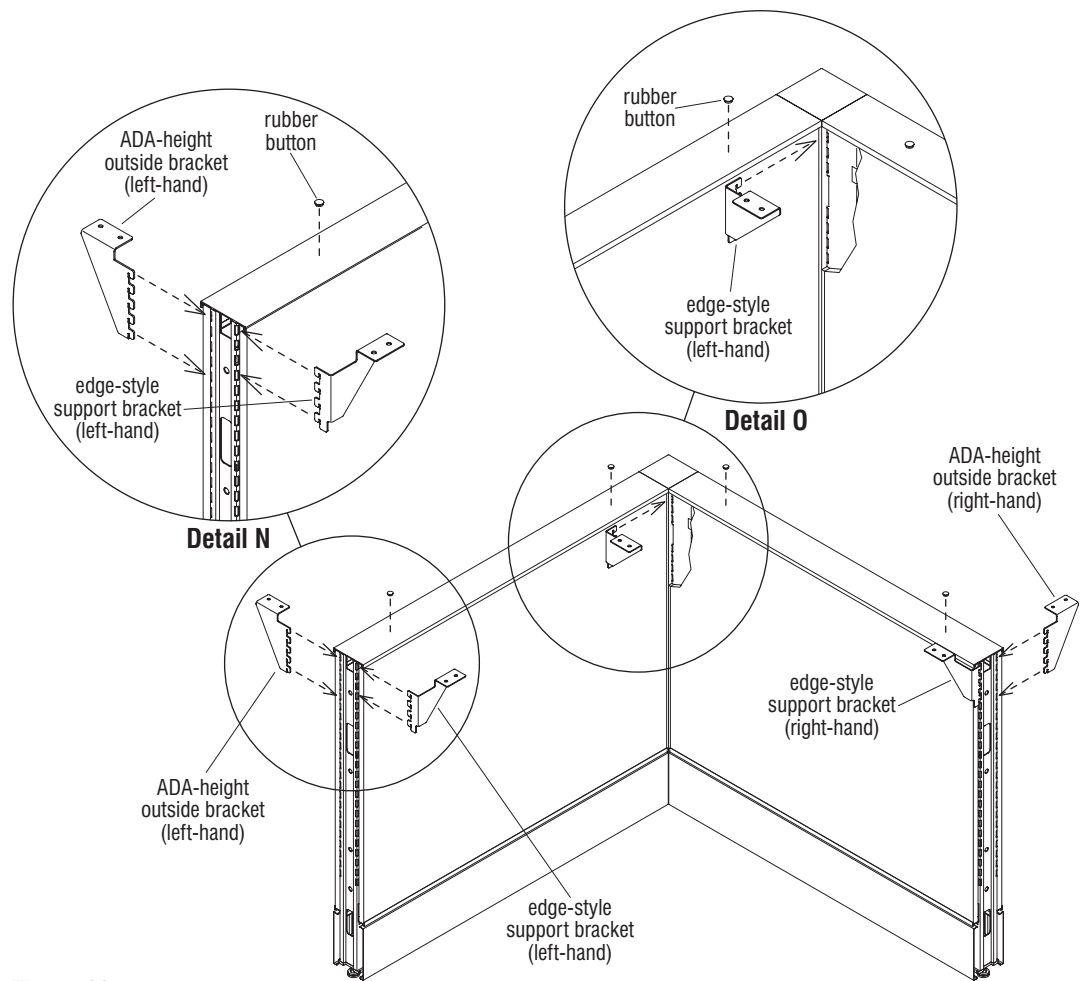

Figure 12
1. Unite Panel top caps must be installed, then adhere two self-stick rubber buttons to the top of both top caps as illustrated. Spacing of buttons is approximate, and buttons prevent the countertop from incidental contact with the top cap (Figure 12, Details N & O).
Note: An attachment bracket "pair" consists of an edge-style support bracket installed to the "inside", user side, as well as an ADA-height outside bracket installed to the "aisle side" of the Unite Panel corner unit. Additionally, an edge-style support bracket must be installed at the center, inside of the corner panel unit (Figure 12, Details N & O).
2. ADA-height bracket pairs are right-hand (Figure 12) or left-hand (Detail N) in design, so one bracket pair will install to the left-hand side, and the other pair will install on the right-hand side of the corner panel unit to support an ADA-Height corner transaction countertop. To install both bracket types (at inside and outside), identify the top slot of the panel vertical post and insert the top
tooth of the appropriate bracket into that top slot. Rotate the bracket down to engage all teeth into slots in the vertical post, then press down firmly to engage all teeth into the slots. The horizontal top of all installed brackets should be about $\frac{1}{8}$ " above the top of the panel top cap. Check bracket for full engagement by pulling straight back firmly in a horizontal motion (Figure 12 & Detail N).
top of the bracket should be about $\frac{1}{8}$ " above the top of the panel top cap. (Figure 12 & Detail O).